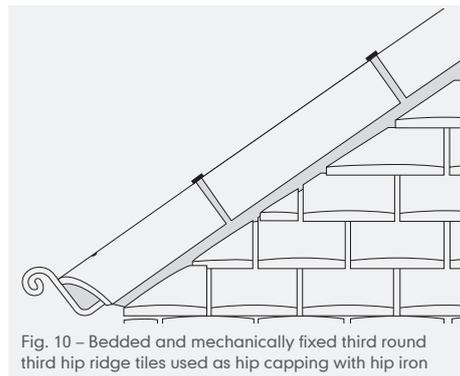

Fig. 10 – Bedded and mechanically fixed third round hip ridge tiles used as hip capping with hip iron
- 1 Fix a galvanised hip iron at foot of hip as support (Fig. 10).